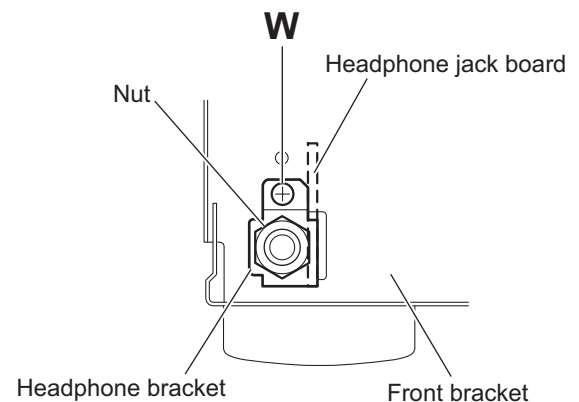

Fig.17
- (2) From the front side of the main body, remove the nut and screw **W** attaching the headphone bracket to the front bracket. (See Fig.17)